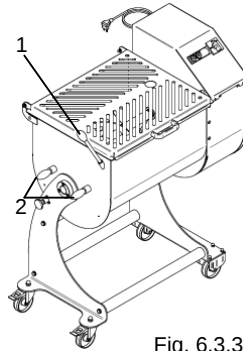
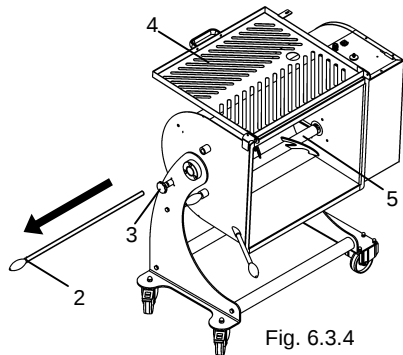
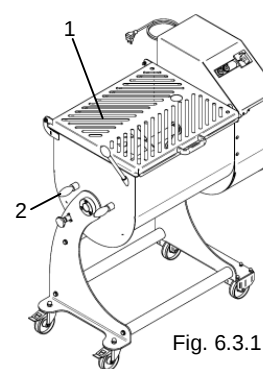
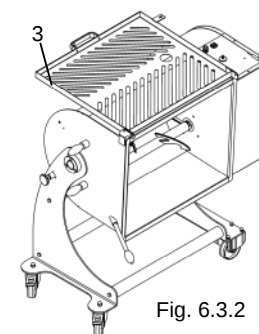

Fig. 6.3.3
Fig. 6.3.4
Fig. 6.3.1
Fig. 6.3.2
- With the bowl in a horizontal position grip the handle on the bowl tilting bar "1" Fig. 6.3.3
- Unhook and remove the pins which lock the mixing blades "2" in position Fig. 6.3.3 and "2" Fig. 6.3.4
- Unscrew the bowl locking knob "3" anti-clockwise Fig. 6.3.4
- Once having released the mixing bowl rotate (Fig. 6.3.2) by pulling the tilting bar "1" Fig. 6.3.3.
- Open the grille "4" Fig. 6.3.4 and proceed with removing the mixing blades.
- Grip the mixing blades one at a time "5" Fig. 6.3.4 and pull outwards to remove.
- With the bowl in a horizontal position grip the handle on the bowl tilting bar "1" Fig. 6.3.1
- Pull the tank locking knob "2" Fig. 6.3.1
- Once having released the mixing bowl rotate (Fig. 6.3.2) by pulling the tilting bar "1" Fig. 6.3.1.
- Open the protection grille "3" Fig. 6.3.2 and empty the bowl.